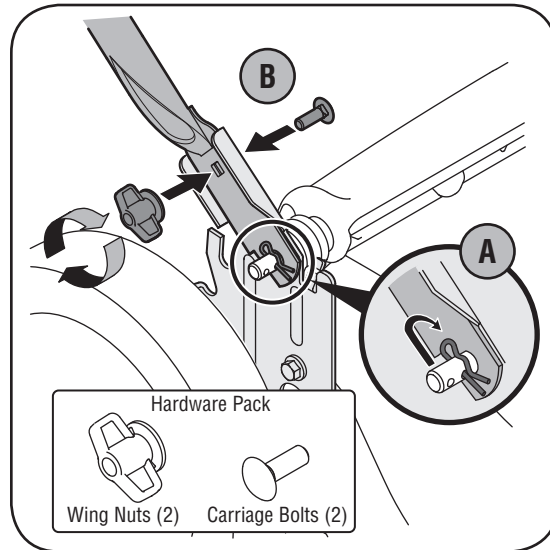

Figure 3-2: Secure lower handle to mounting brackets.
- a. Remove hairpin clip from this hole. Using a pair of pliers, insert hairpin clip into the hole on pin closest to the bracket, Figure 3-2. Repeat on other side.
- b. Insert a carriage bolt from the hardware pack into the upper hole on the handle mounting bracket, Figure 3-2. Secure with one plastic wing nut, also included the hardware pack. Repeat on other side.